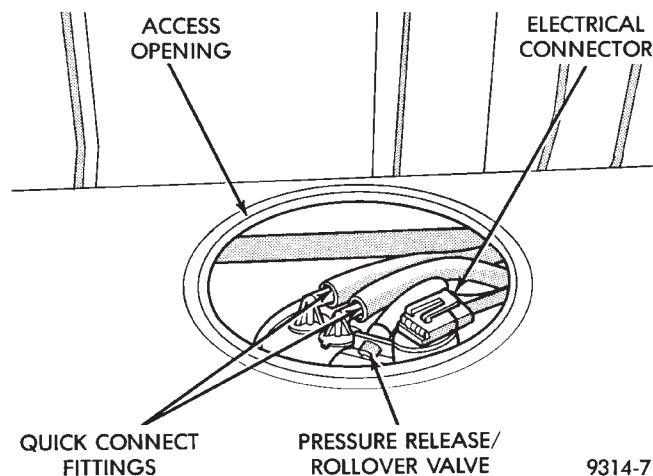

Fig. 6 Access Opening in Trunk
- (1) Release fuel system pressure. Refer to Fuel Pressure Release Procedure.
- (2) Disconnect negative cable from battery.
- (3) Remove trunk liner.
- (4) Remove access panel fasteners.
- (5) Remove access panel and gasket (Fig. 6). Inspect gasket for damage. If necessary, replace gasket.
- (6) Disconnect electrical connector from top of